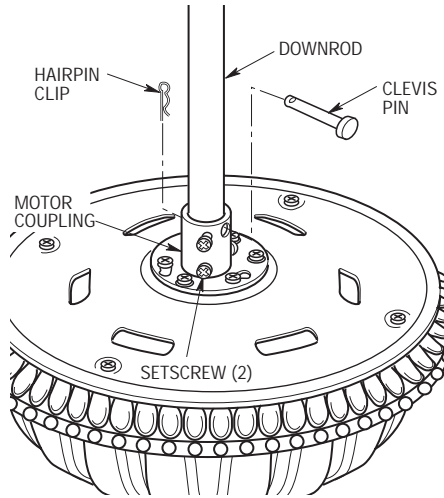

Figure 8
- 12. Unscrew the two upper setscrews (Figure 8) until they clear the inside of the motor coupling. Then separate, untwist and unkink the three 80" motor leads. Route the motor lead wires through the downrod. Align the clevis pin holes in the downrod with the holes in the motor coupling. Install the clevis pin and secure with the hairpin clip (Figure 8). The clevis pin must go through the holes in the motor coupling and the holes in the downrod. Be sure to push the straight leg of the hairpin clip through the hole near the end of the clevis pin until the curved portion of the hairpin clip snaps around the clevis pin. The hairpin clip must be properly installed to prevent the clevis pin from working loose. Pull up on the downrod to make sure the clevis pin is properly installed.
It is critical that the clevis pin in the motor coupling is properly installed and the setscrew securely tightened. Failure to verify that the pin and setscrew are properly installed (as shown in Figure 8) could result in the fan falling.
- 13. Tighten the two upper setscrews (Figure 8) securely while pulling up on the downrod.